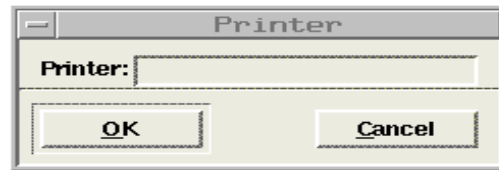

Figure 3-5. Printer Window
1. **From the Layout menu, click *Printer*.** The printer window is displayed as shown in Figure 3-5.